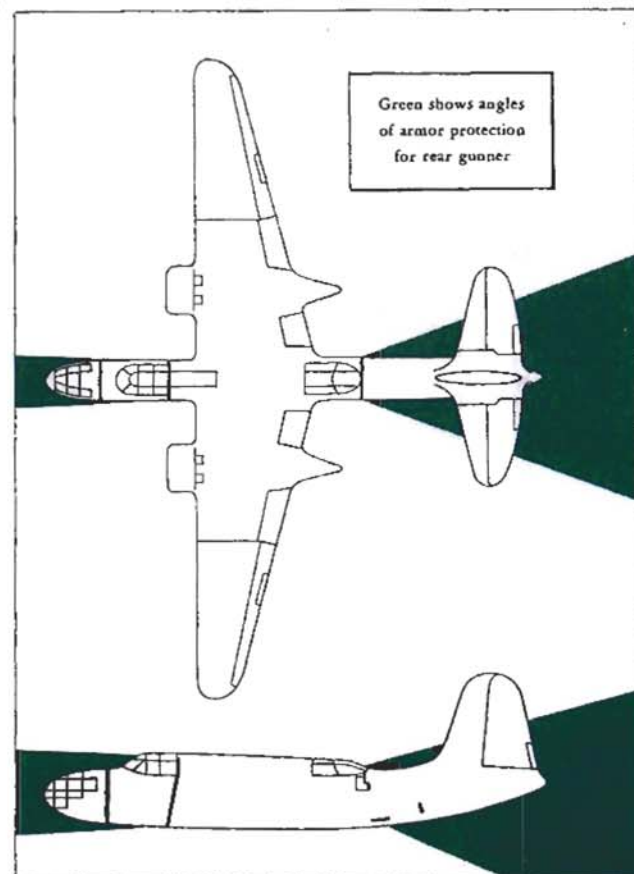

Figure 39—Rear Gunner's Armor Diagram
d. Armor Protection.—Armor plating is installed, affording protection for the gunner from fire from the angles as illustrated (Figure 39).